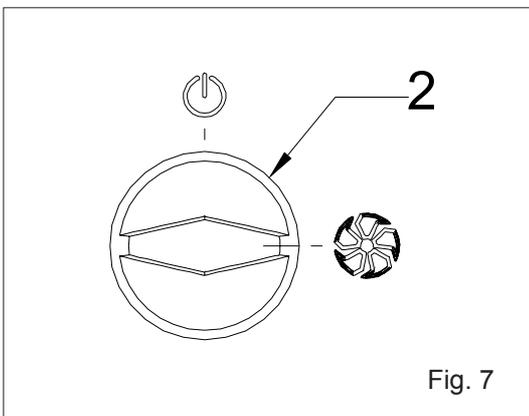

Fig. 7
To start the cooking cycle, turn selector (2) to position 1, as shown in Fig.7.